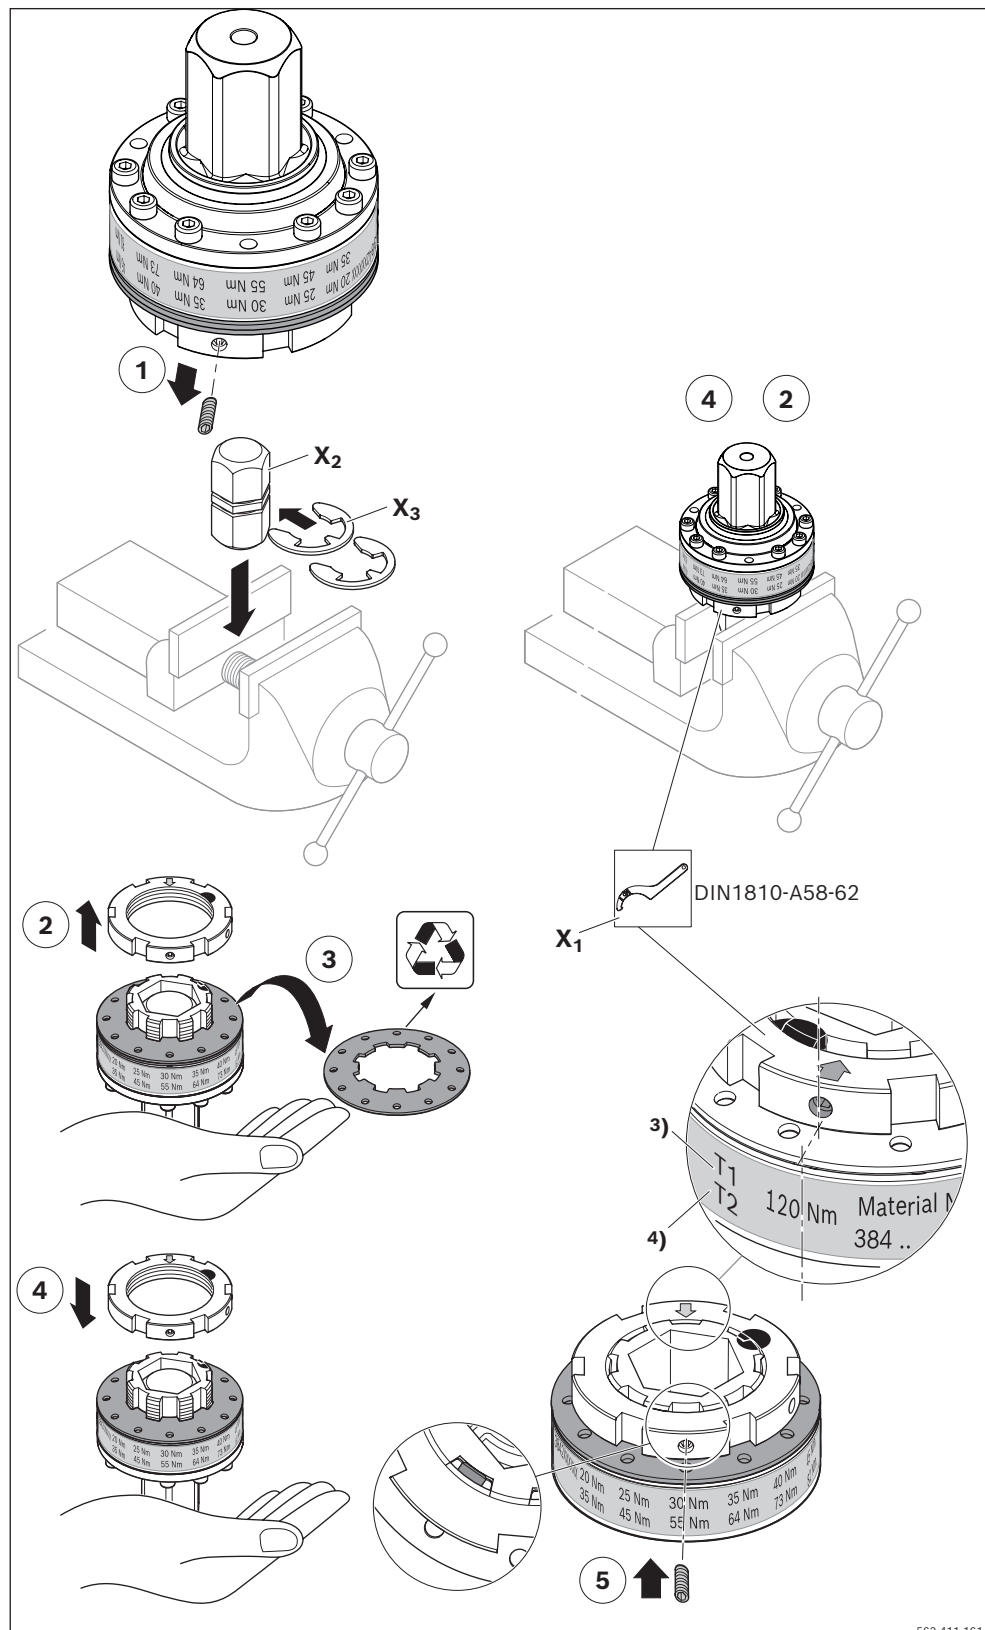

Fig. 181: Safety coupling modification
- ▶ Observe the electrical power requirement shown on the motor nameplate (see Fig. 181 on page 190).